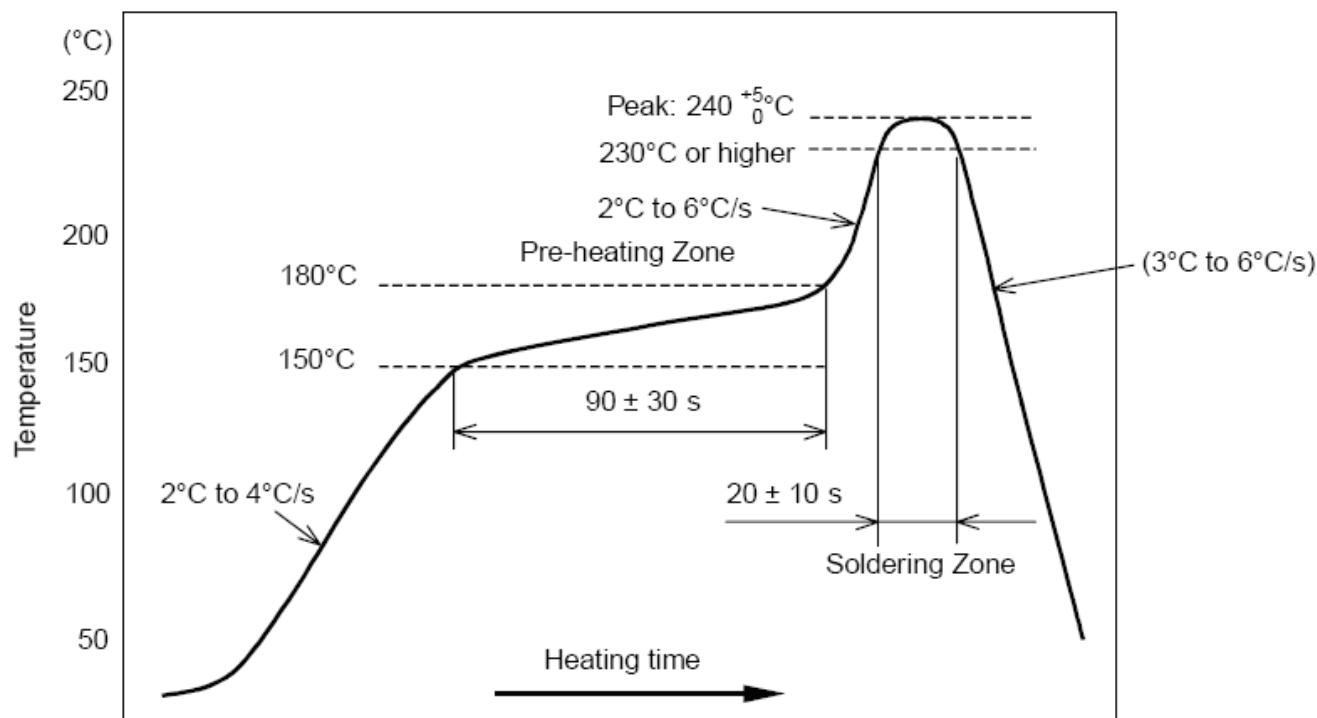

图 11-1. Temperature Profile for Evaluation of Solder Heat Resistance of a Component (at Solder Joint)
- Temperature measurement: Thermocouple  $d = 0.1$  mm to  $0.2$  mm CA (K) or CC (T) at soldering portion or equivalent method
- Allowable reflow soldering times: 2 times based on the reflow soldering profile (see 图 11-1)
- Temperature profile: Reflow soldering will be done according to the temperature profile (see 图 11-1)